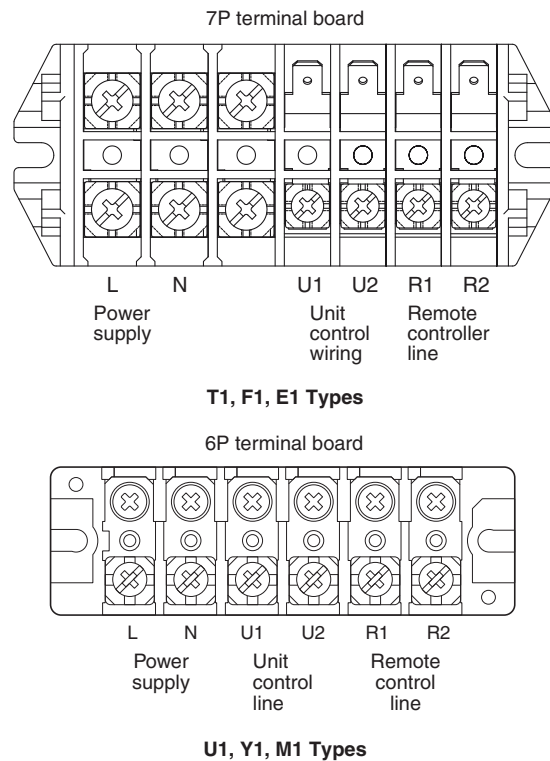

Fig. 4-2
- (1) Refer to Section 4-2. "Recommended Wire Length and Wire Diameter for Power Supply System" for the explanation of "A", "B", "C", "D", "E" and "F" in the above diagram.
- (2) The basic connection diagram of the indoor unit shows the terminal boards, so the terminal boards in your equipment may differ from the diagram. (Fig. 4-2)
- (3) Refrigerant Circuit (R.C.) address should be set before turning the power on.
- (4) Regarding R.C. address setting, refer to the installation instructions supplied with the remote controller unit (Optional). Auto address setting can be executed by remote controller automatically. Refer to the installation instructions supplied with the remote controller unit (optional).